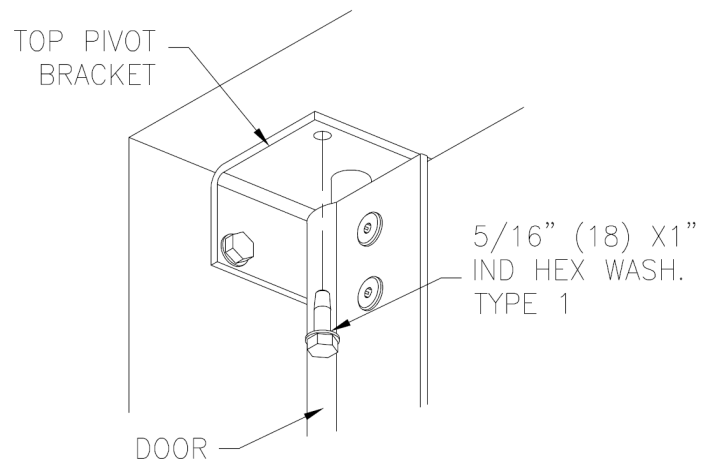

FIG. 6
- b. Straighten door and push down the top pivot bracket so as to fit door into place (Fig. 6).